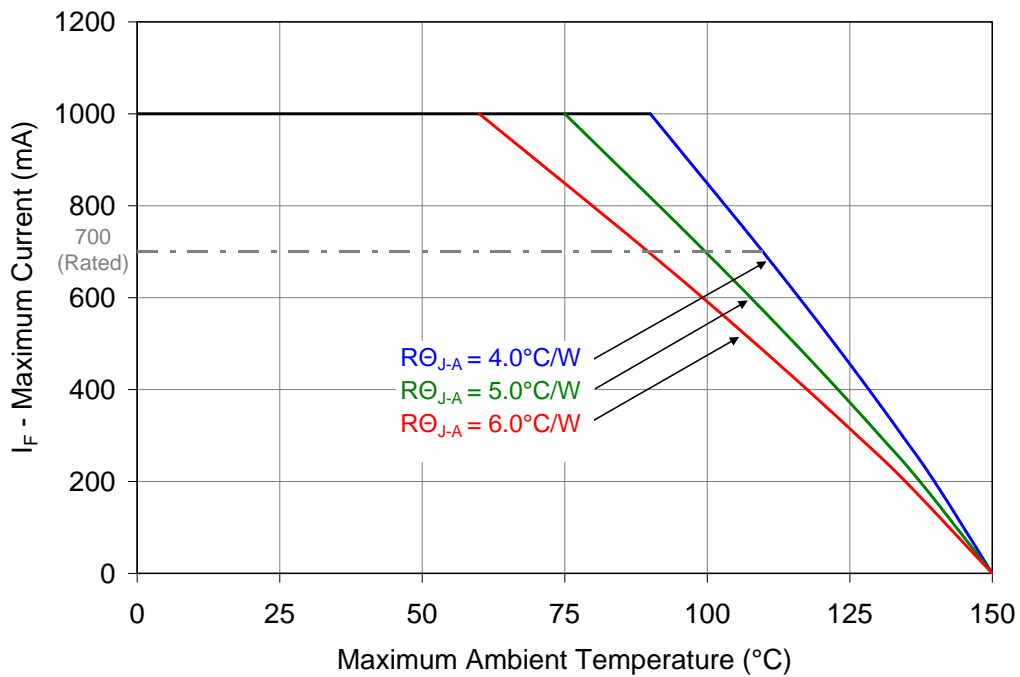

Figure 11: Maximum forward current vs. ambient temperature based on  $T_{j(\text{MAX})} = 150^\circ\text{C}$ .
- Maximum DC forward current (per die) is determined by the overall thermal resistance and ambient temperature. Follow the curves in Figure 11 for current derating.
Notes for Figure 11: